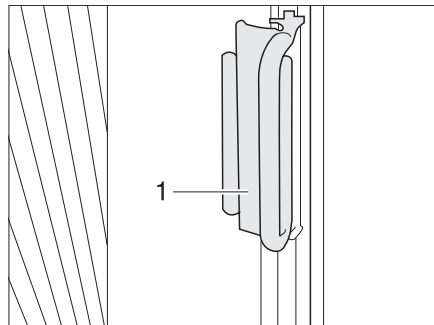

Fig. 81 Handle of the Roman shade for the windscreen
- Grasp the handles (Fig. 81,2) of the Roman shades at both sides of the windscreen and draw carefully to the middle of the windscreen until the magnetic catch keeps the Roman shades closed.